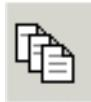

Figure 10-21. Item History Button
23. Click the **Item History** button (Figure 10-21) to open the **Record History** dialog box.